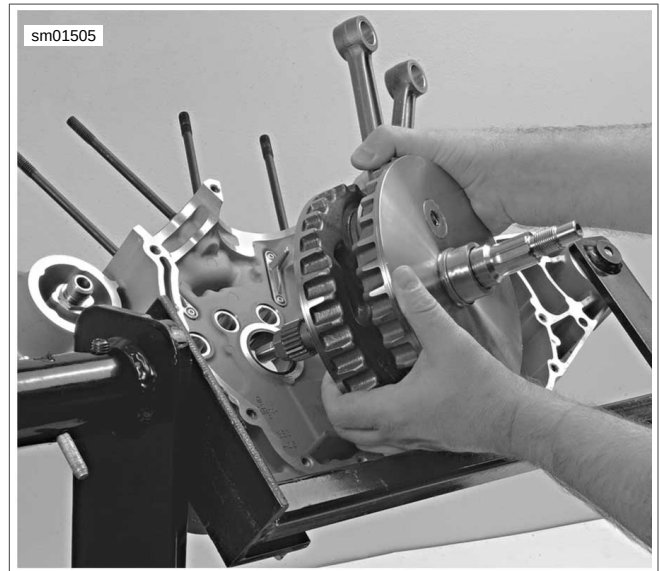

Figure 3-84. Installing Flywheels in Right Crankcase
- a. See Figure 3-84. Install flywheel assembly in right crankcase. Slide pinion shaft through outer race in right crankcase.